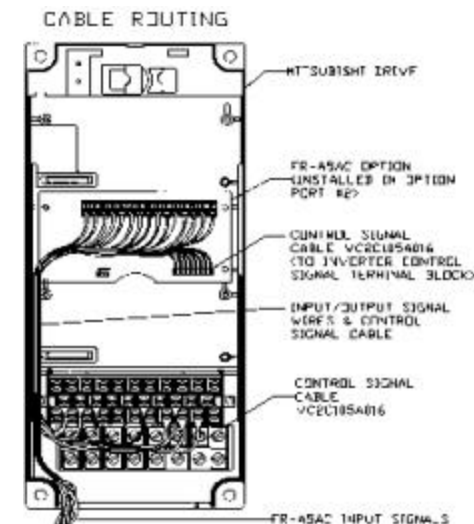

Figure 6: Cable Routing View
- Route the 120 VAC signal cables and the control signal terminal block cable along the side of the VFD case as shown in figure 6.